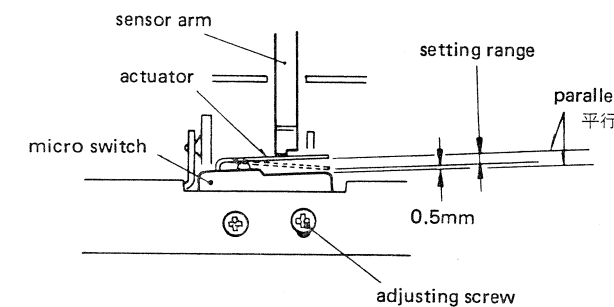

Fig. 5-4
2. Adjust mounting position of the two micro switches, (cassette-in switch and record safety switch) so that the actuator position is in the setting range shown in Fig. 5-4.